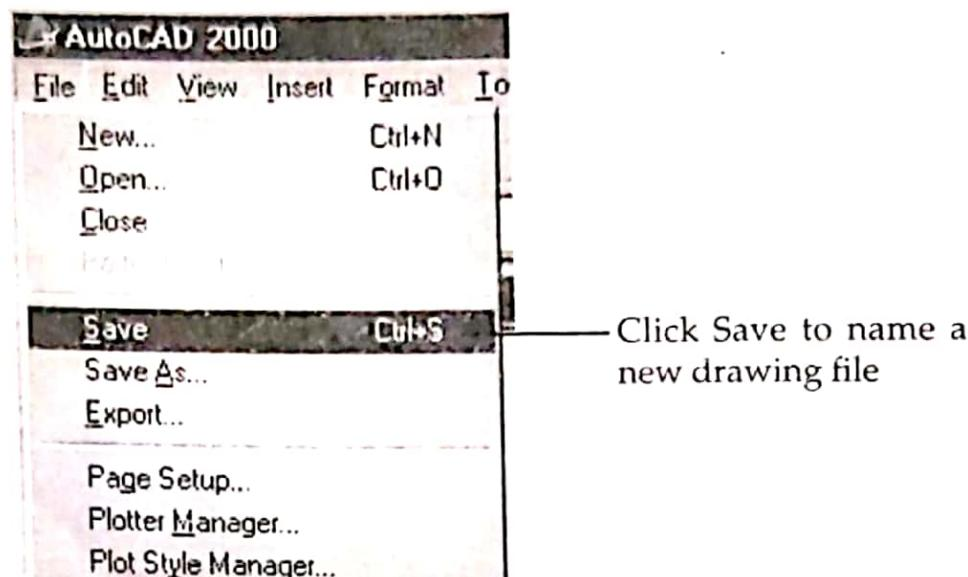

Fig. 19.4 How to save a drawing
- Go to the top left corner of the screen and click on 'File' option and then select 'Save' as shown in Fig. 19.4.